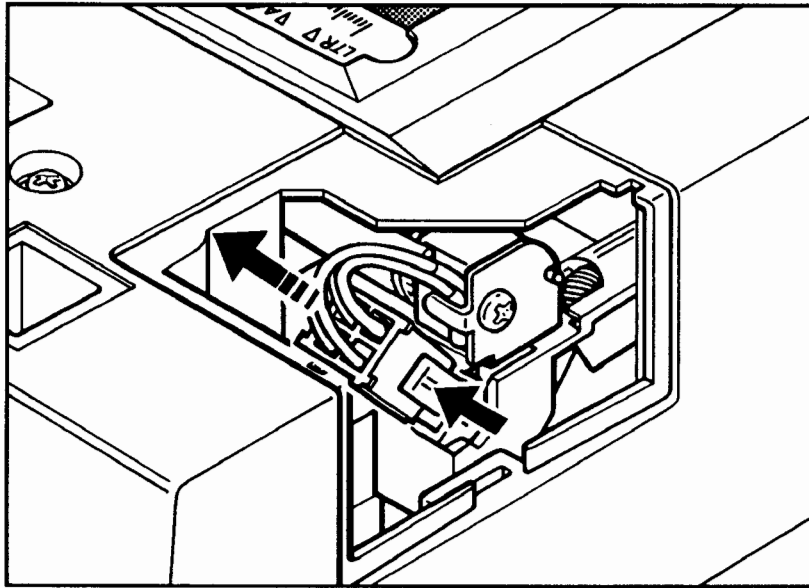

Figure 18. Unplugging the Lamp Connector
9. Unplug the lamp connector by depressing the side clip and pulling the connector out of the socket. See figure 18.